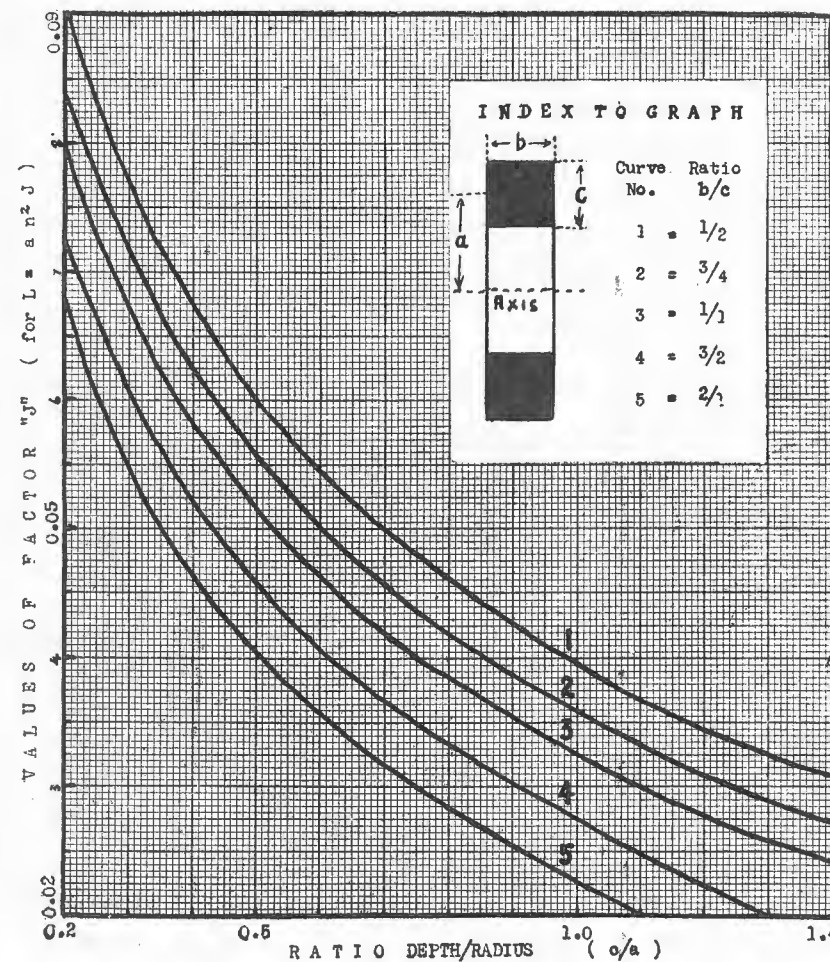

Figure 3. Form factor determination for inductance formula (4). Dimensions are required in inches.
An alternative means of calculating the inductance of a multi-layer coil is given by the following expression: L = an^2J ... (4) where "L" is the inductance in microhenries; "a" is the mean coil radius in inches (see Fig. 3); "n" is the number of turns; and "J" is a form factor determined from Fig. 3. The "b/c" ratios given in Fig. 3 will cover most standard multi-layer coil shapes, but in the event of any ratio falling between those plotted, interpolation should not be difficult.